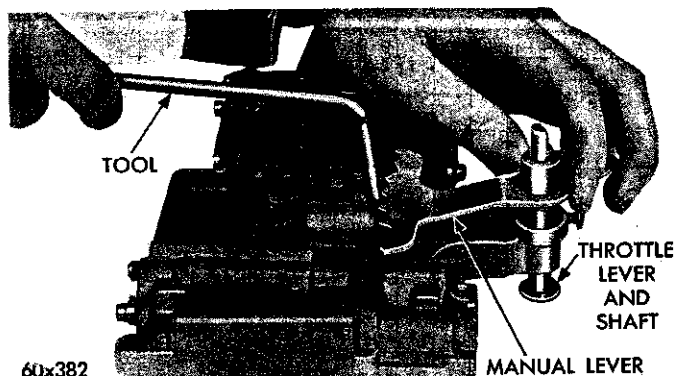

Fig. 62—Installing Detent Ball, Spring and Manual Lever
(10) Install the throttle lever and shaft on the valve body (Fig. 62). Insert the detent spring and ball in its bore in the valve body. Depress the ball and spring with Tool C-3765 or similar tool and slide the manual lever over the throttle shaft so that it engages the manual valve and detent ball. Install the retaining E-clip on the throttle shaft.